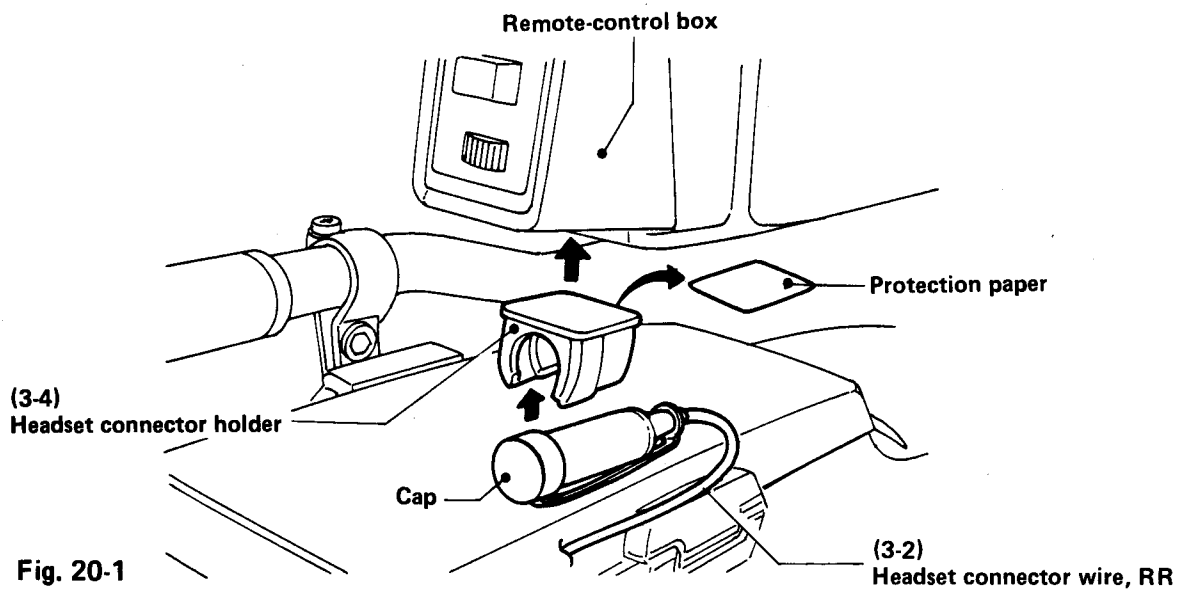

Fig. 20-1
- 2) Remove the protective paper from the headset connector holder (3-4) exposing adhesive surface. Stick the headset connector holder to the plate under the remote-control box, mounting the rear headset connector in the direction shown in Fig. 20-1.